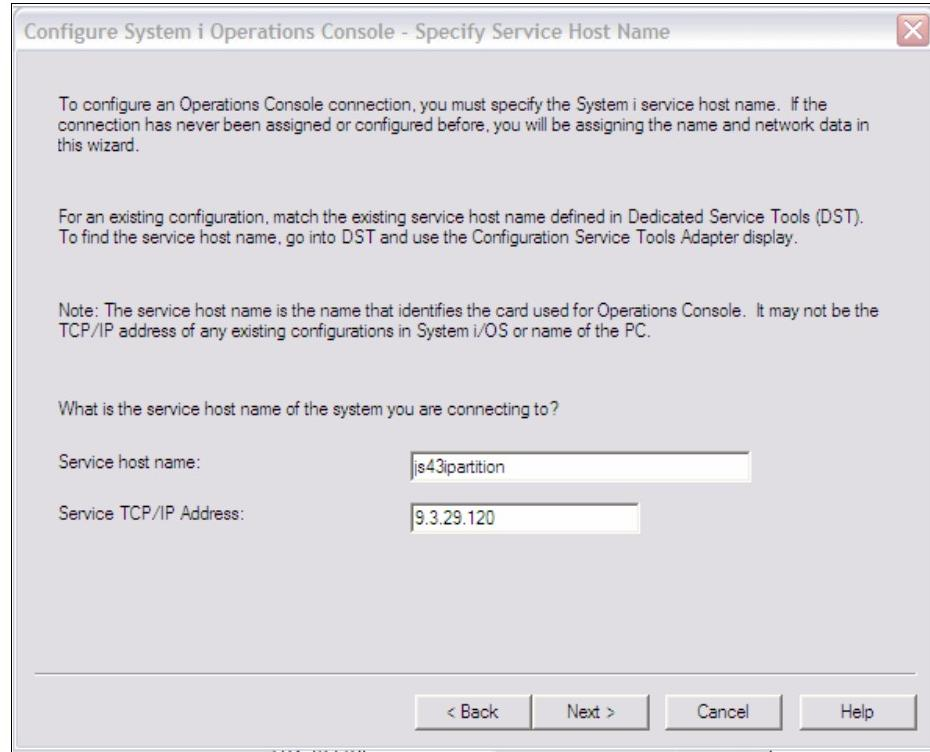

Figure 7-39 IBM System i Operations Console - enter the Service TCP/IP Address
If the Service host name is already defined in the host file of the console PC, then the window will resolve the IP address automatically and fill in the field as shown in Figure 7-39 on page 286.
6. Enter the service TCP/IP address in the field shown in Figure 7-39 on page 286.